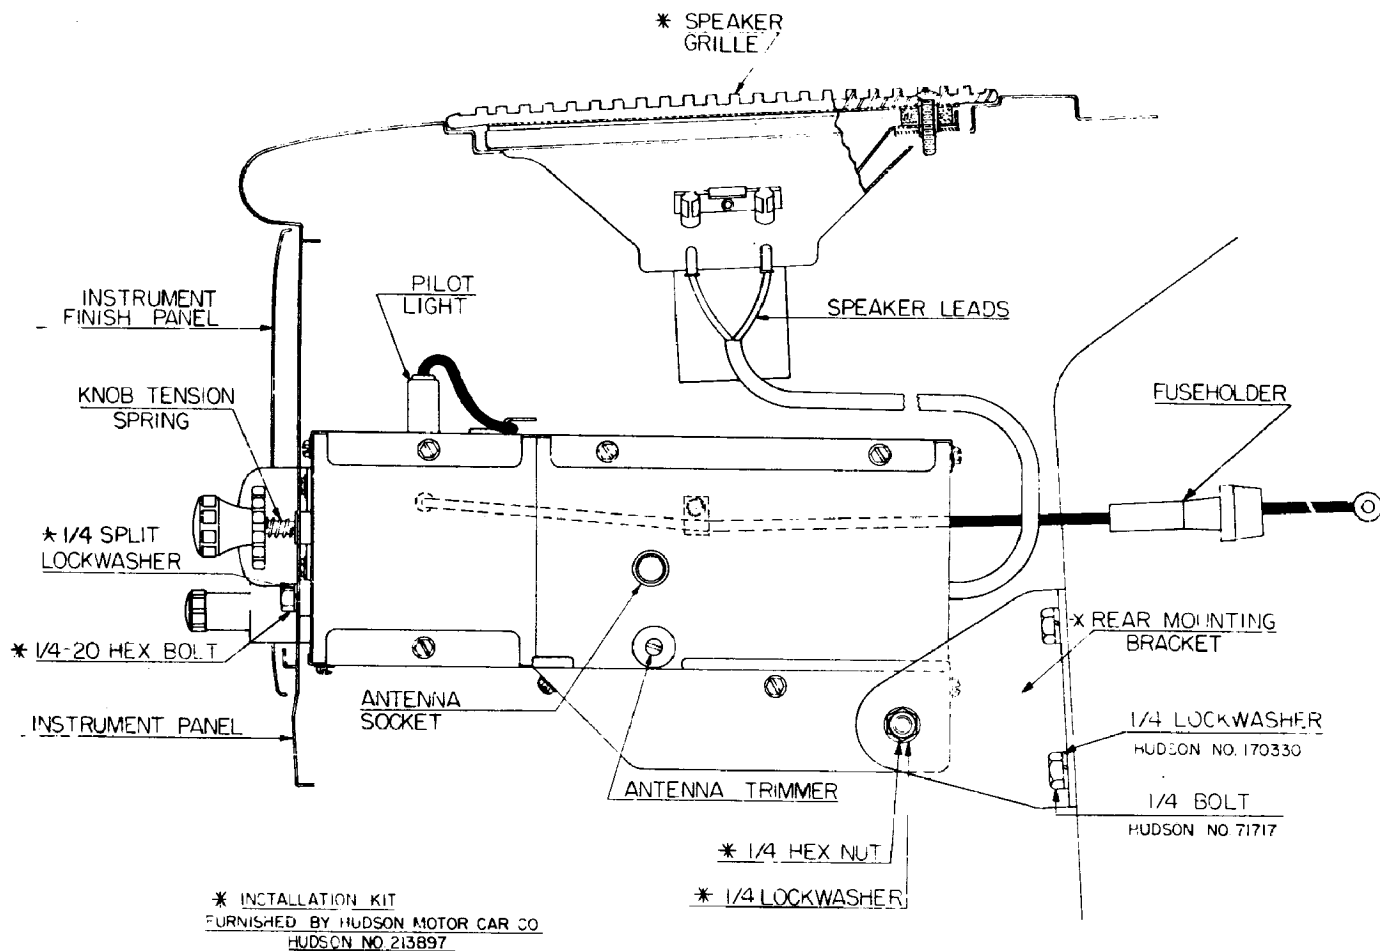

Fig. 2. Mounting Details and Connections
5. Remove the two bolts, Hudson No. 71717, from the fire wall and install the rear mounting bracket No. 12-1410. Do not tighten the bracket at this time. (Fig. 2.)
6. With the dial end of the receiver up, push the receiver up between the instrument panel and the air hopper. Turn the radio until the knob shafts slide through the openings in the instrument panel and the tapped spacers provided on the front plate of the set line up with the two corresponding holes in the instrument panel. Bring the receiver forward as far as it will go. (Fig. 2.)
11. Plug in antenna cable (Fig. 2).
18. **IMPORTANT:** Turn the receiver on and allow it to operate for approximately fifteen minutes in order for it to reach normal operating temperature. Tune in a weak station near 1200 Kc. With a small screw driver adjust the antenna trimmer, located on the right side of the receiver for maximum volume (Fig. 2).